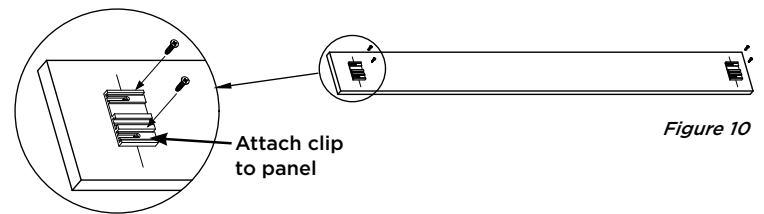

Figure 10
- 4. Position the Clip Plate horizontally centered on the Toe-kick, aligning the holes in the plate with the adjustable legs (Figure 10). You can mark the opening of the plate onto the Toe-kick using a Sharpie® or secure the plate to Toe-kick by placing a screw into each hole on the Mounting Plate using a screwdriver or drill.